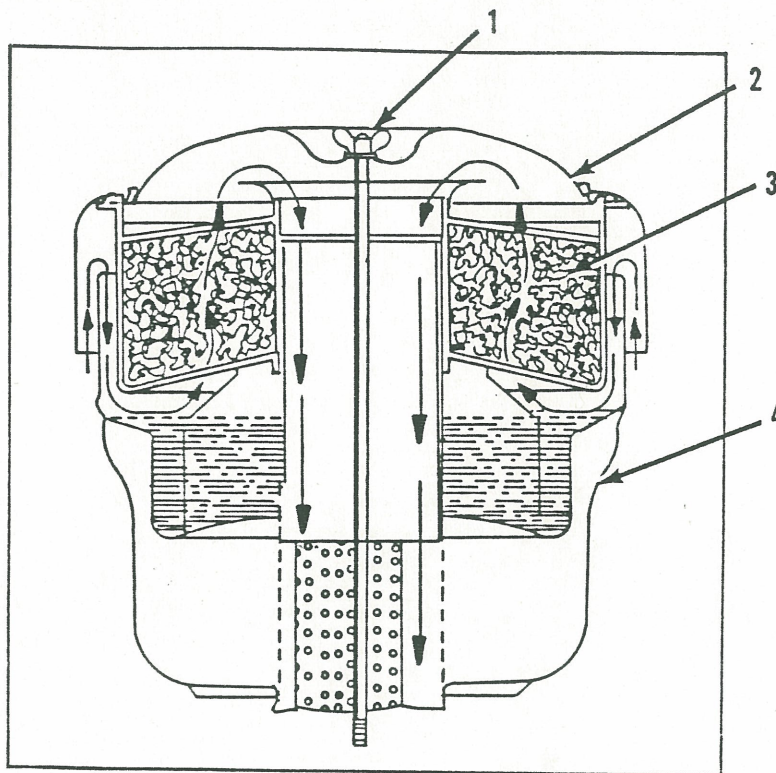

Fig. 5-3. Oil Bath-Type Air Cleaner
5-10.        OIL BATH AIR CLEANER. The oil bath air cleaner (Fig. 5-3) consists of a metal wool cleaning element supported inside a housing beneath which is contained a bath of oil. The lower portion of the housing incorporates a chamber which serves as a silencer for the incoming air to the blower.
a. SERVICE. Service the oil bath air cleaner as follows (see Figure 5-3).
(1) Loosen the wingbolt (1) and remove the cleaner from the air inlet housing. the cleaner may then be separated into three sections: the upper section (2) the metal wool element (3), and the lower section (4) containing the oil sump.
(2) Soak the element in fuel oil to loosen the dirt; then flush the element with clean fuel oil and allow it to drain thoroughly.
(3) Empty the sump and clean it with fuel oil to remove all sediment.
(4) Push a lint-free cloth through the center tube to remove dirt or oil from the walls.
(5) Clean and check all gaskets and sealing surfaces to insure air tight seals.
(6) Refill the sump to the oil level mark ONLY, with the same grade of oil used in the engine.
(7) Before installing the air cleaner on the engine, check the air inlet housing for dirt. If the service period has been too long, or if dust-laden air has been leaking past the air cleaner to the air inlet housing seals, the inlet will be dirty. This will serve as a good check on the servicing of the air cleaner. When installing the cleaner (and its seal) on the inlet housing, be sure the cleaner seats properly, then tighten the wingbolt securely until the cleaner is rigidly mounted.